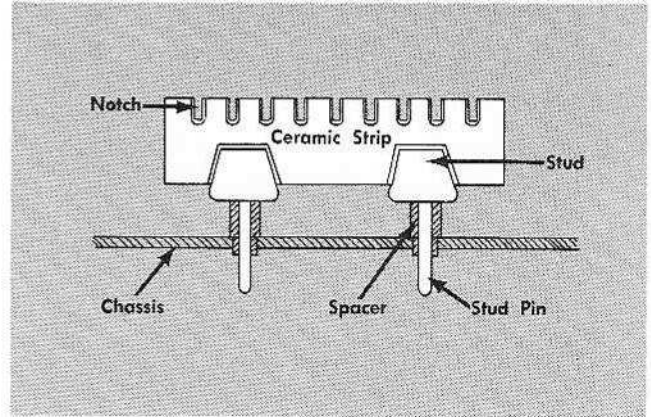

Fig. 4-2. Ceramic strip assembly.
Fig. 4-2 shows an assembled ceramic terminal strip. Replacement strips with studs attached are supplied under one part number; the spacers are supplied under a separate part number. However, the old spacers may be re-used if not damaged.
1. Remove crt bezel nuts, bezel and plastic light filter or crt protector plate (see Fig. 4-2).